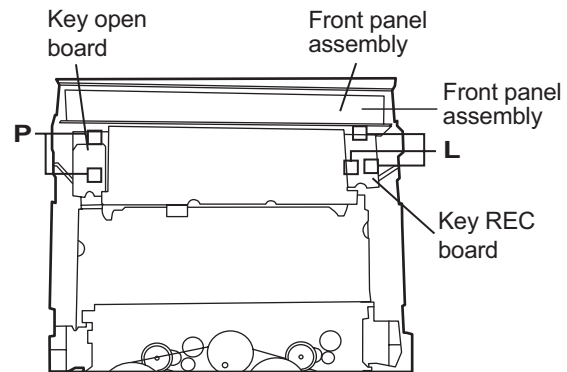
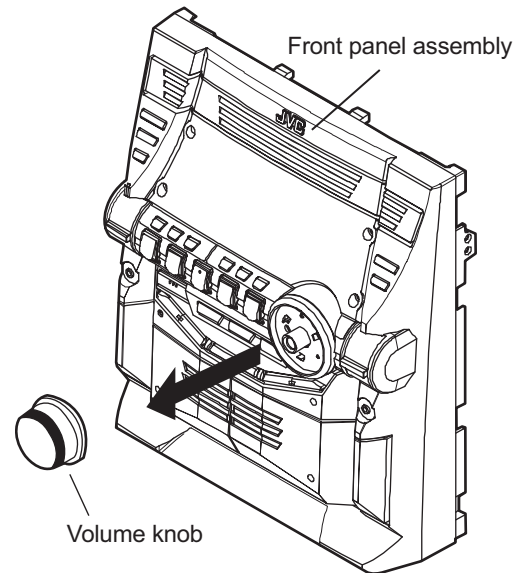

Fig.20
Fig.22
### 3.2.7 Removing the Key open board & the Key rec board (See Fig.20)
### 3.2.9 Removing the Switch board and sound mode and CD function switch board (See Fig.20 to 23)
- (1) Pull out the volume control knob from the front of the front panel assembly.(Fig.22)
- (2) Remove six screws **Q** retaining the front panel assembly.
- (3) Remove the Control/FL board.
- (4) Remove eleven screws retaining the Switch (key 1) board.(Fig.20)